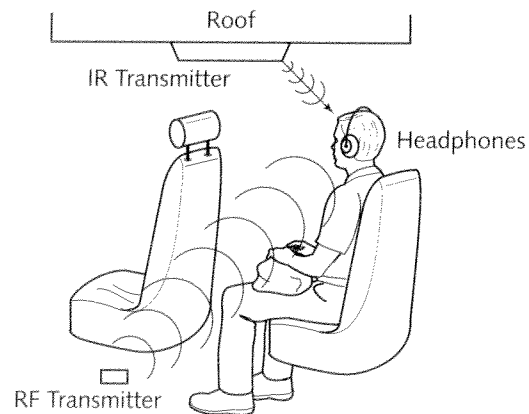

FIGURE 23-1: IR and RF ideal placement suggestions.
- The IR transmitter needs to be installed on the roof of the car (on the inside of course), as shown in Figure 23-1.
The majority of professionals I've spoken with say to go with an IR solution because of the better audio quality, even though it's line of sight. Whichever one you decide to install, it won't affect the installation instructions that follow, because the actual installation of the wireless audio transmitter will be different depending on which manufacturer's product you purchase. Figure 23-1 shows the difference between IR and RF in a wireless transmission scenario and ideal places to install the two setups.